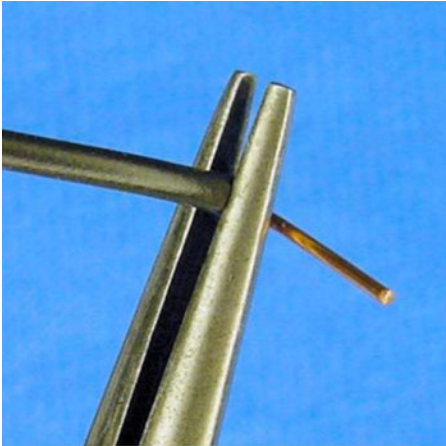

Figure 12-21. *Bending wire with the help of needle-nose pliers*
4. You can bend the wire into the desired shape with your hands. However, holding the wire in the tip of needle-nosed pliers and bending against the flat edge can achieve nice square corners (see Figure 12-21).